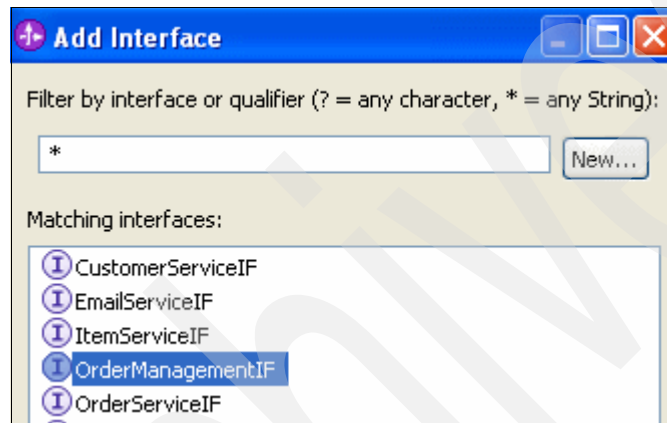

Figure 4-31 The OrderManagementProcessEm module must implement OrderManagementIF
2. In the assembly diagram for the new module, right-click the mediation flow and select **Add** → **Interface**, then select **OrderManagementIF**, as shown in Figure 4-31.